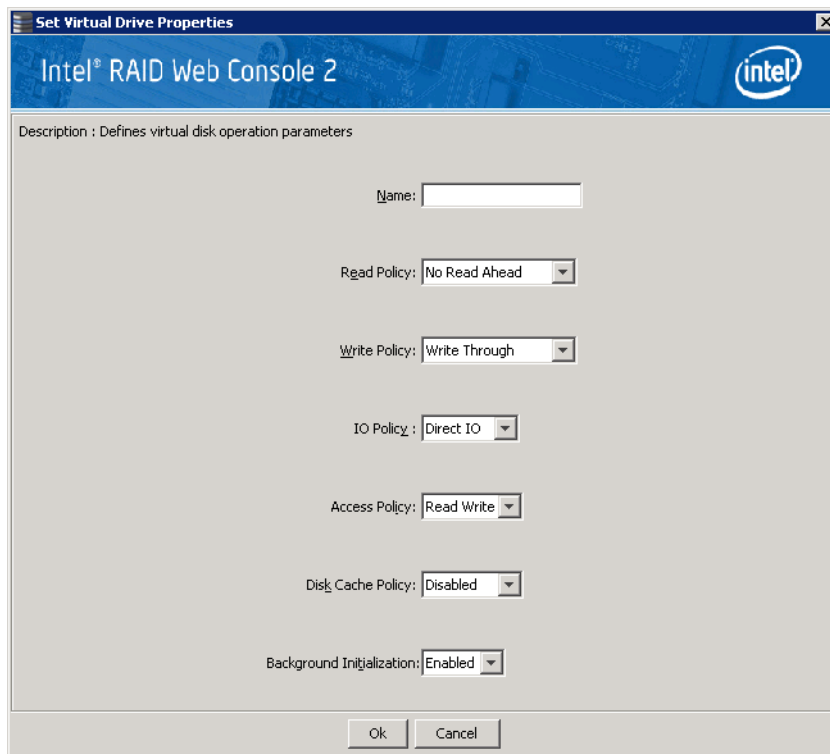

Figure 74. Set Virtual Disk Properties
1. Select a virtual disk (or drive) icon in the left panel and then select **Go To** -> **Virtual Drive** -> **Set Virtual Drive Properties**. Alternatively, click the **Properties** panel and then click **Set Virtual Disk Properties**. Figure 74 shows the Set Virtual Disk Properties screen.